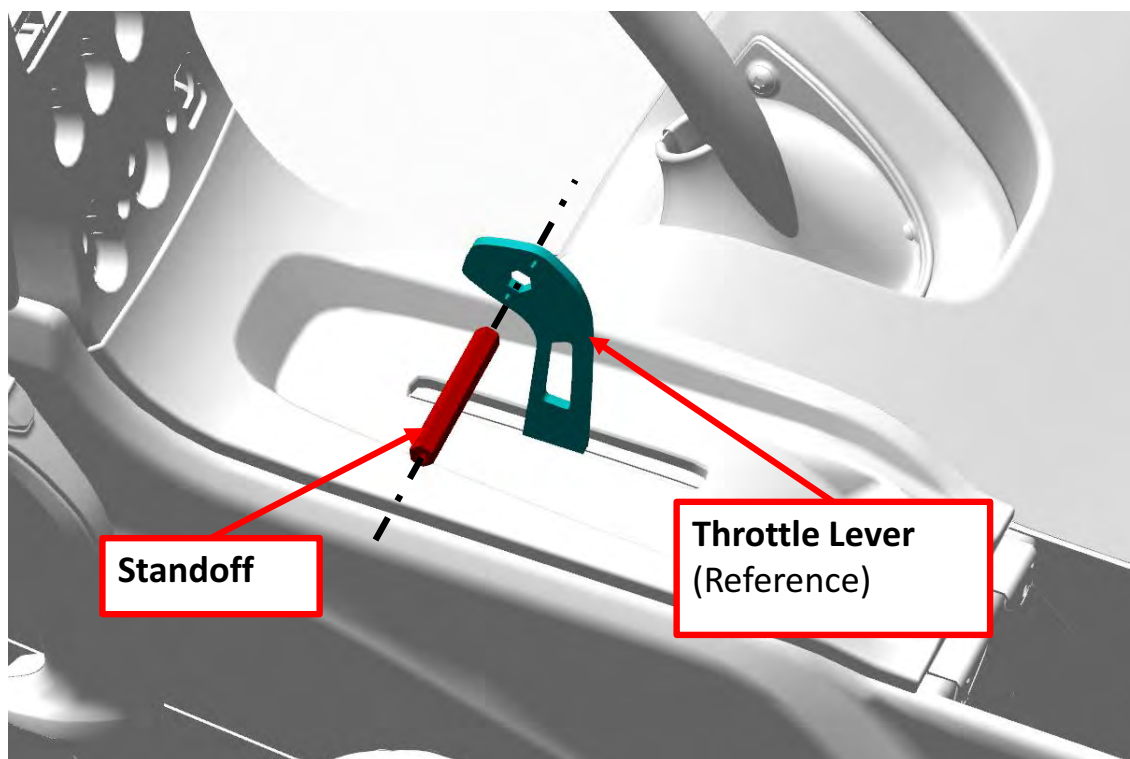

FIGURE 8-8
3. Remove the standoff that is inserted into the throttle lever. Retain hardware. See Figure 8-8.
3. Install the standoff by inserting it into the throttle lever. See step 2. See Figure 8-8.